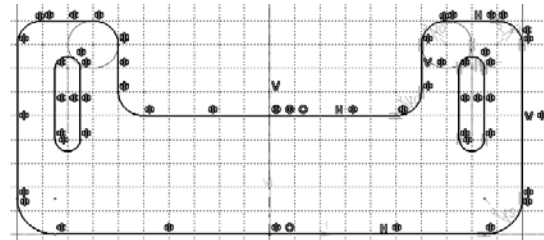

Figure 3-61 The sketch after mirroring
- Mirror the sketch along the vertical axis of origin, refer to Figure 3-61.
3. Select the vertical axis of origin; the sketch is mirrored to the other side of the selected axis, as shown in Figure 3-61.